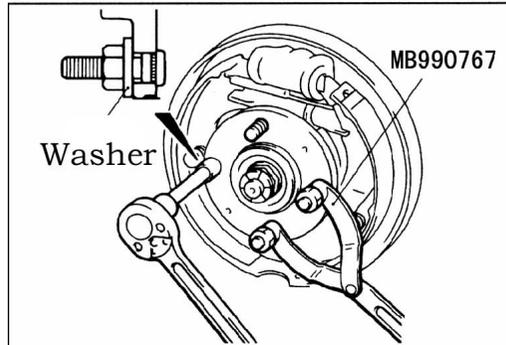

Fig.13-4
- (3) install the plain washer to the new hub bolt, and install the bolt with a nut.(see Fig.13-4).